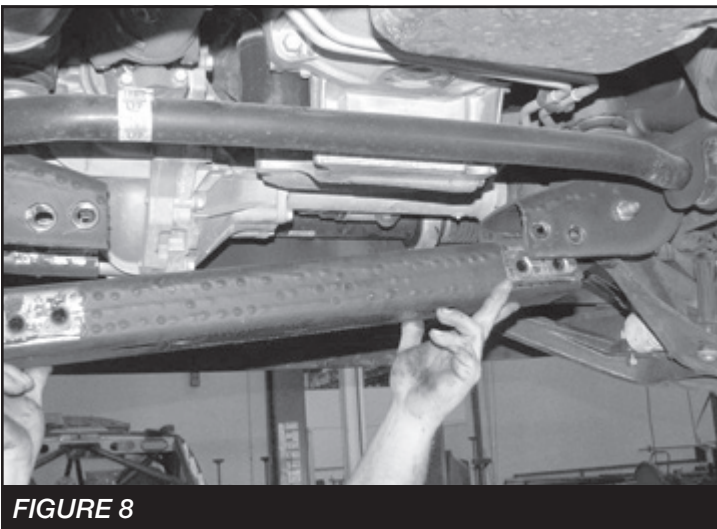

FIGURE 8
10. Remove the factory rear cross member and retain factory hardware. **SEE FIGURE 8**